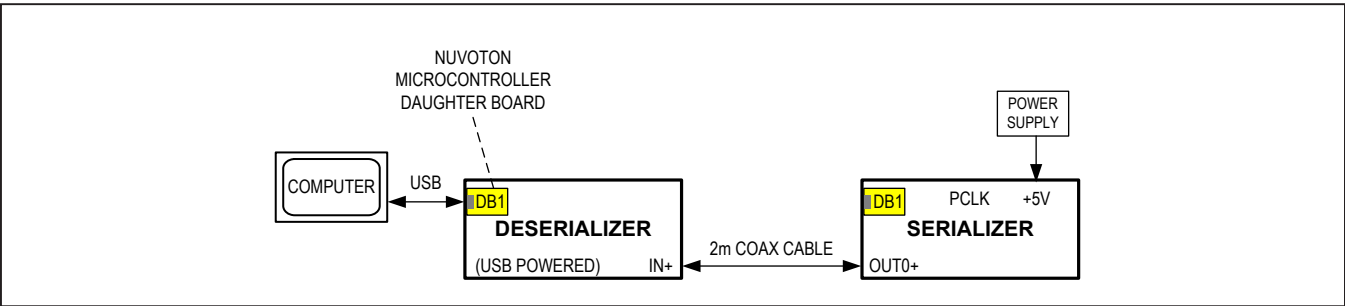

Figure 1. Deserializer Test Setup Block Diagram
- 4) Set up the system, as shown in Figure 1.